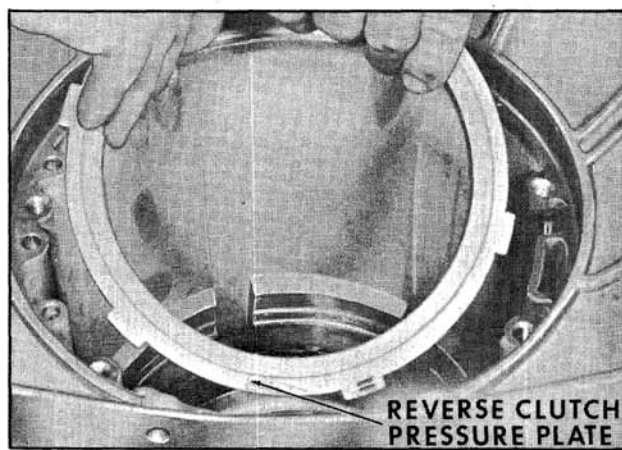

Fig. 6-493 Installing Pressure Plate
7. Install reverse clutch pressure plate with the identification mark being installed in the five o'clock groove in case. (Fig. 6-493)